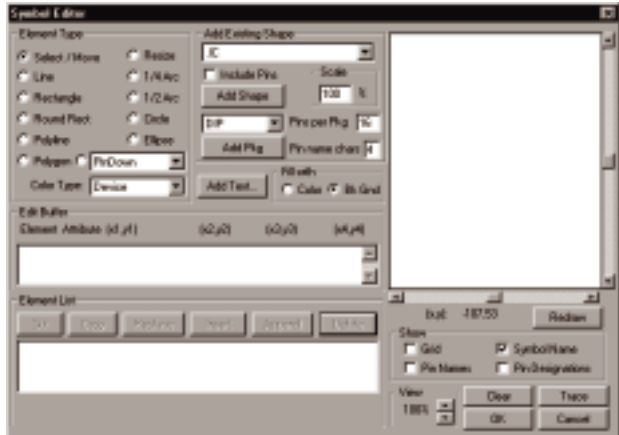

Figure 16.1. Use the Symbol Editor to create or modify schematic symbols.
- 5 Click OK to display the Symbol Editor (Figure 16.1).